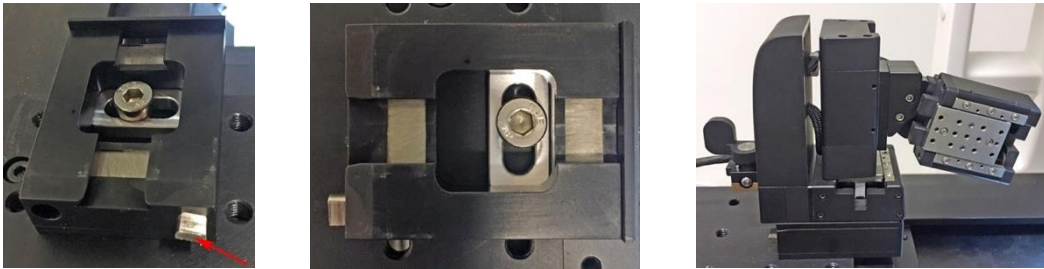

Figure 3. Installing uMp with docking base
3. Micromanipulator is shipped with docking base attached. Unlock manipulator from its docking base by turning the locking knob 90 degrees using supplied tool (Fig 3., middle).
4. Move slot inside the docking base to center of its adjustment range and place the docking base so that selected installation thread is in the middle of the slot (Fig 3., left). Use M6 or ¼ inch bolt supplied with the manipulator to attach docking base. Tighten lightly to allow sliding and turning the base on the platform.
6. Slide the manipulator to docking base (Fig 3., right) and lock it by turning the knob 90 degrees. Test that installation is mechanically solid by gently trying to move the manipulator from the back-cover.